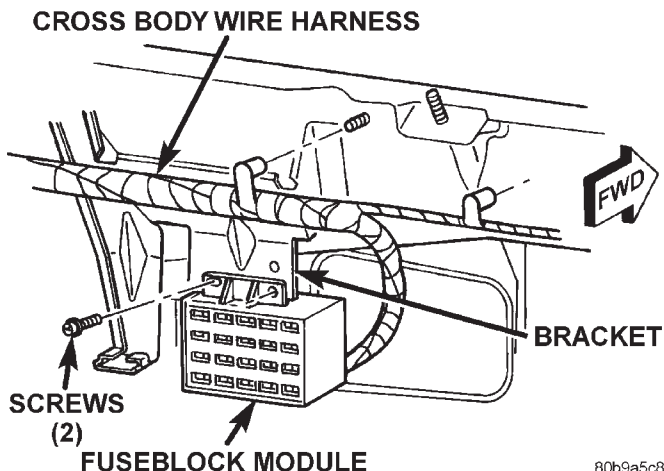

Fig. 6 Fuseblock Module Remove/Install
- (1) Disconnect and isolate the battery negative cable.
- (2) Remove the instrument panel assembly from the dash panel. Refer to **Instrument Panel Assembly** in the Removal and Installation section of Group 8E - Instrument Panel Systems for the procedures.
- (3) Disconnect each of the cross body wire harness connectors. Refer to **Connector Locations** in the Contents of Group 8W - Wiring Diagrams for more information on the locations of the affected connectors.
- (4) Remove all of the fasteners that secure each of the cross body wire harness ground eyelets to the vehicle body and chassis components. Refer to **Connector Locations** in the Contents of Group 8W - Wiring Diagrams for more information on the ground eyelet locations.
- (5) Disengage each of the retainers that secure the cross body wire harness to the vehicle body and chassis components. Refer to **Connector Locations** in the Contents of Group 8W - Wiring Diagrams for more information on the retainer locations.
- (6) Remove the two screws that secure the fuseblock module to the bracket on the dash panel (Fig. 6).
- (7) Remove the fuseblock module and the cross body wire harness from the dash panel as a unit.